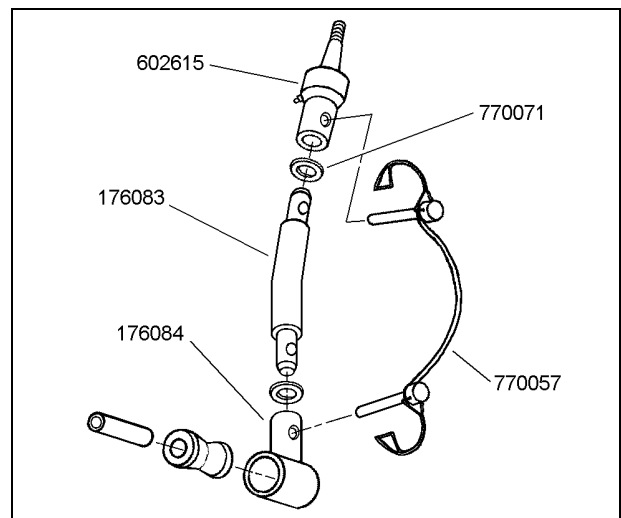

Figure 9
- 4) Connect the bottom socket assembly to a top swivel (602615) with the center section. Insert a set of locking pins (770057) as shown in figure 9.